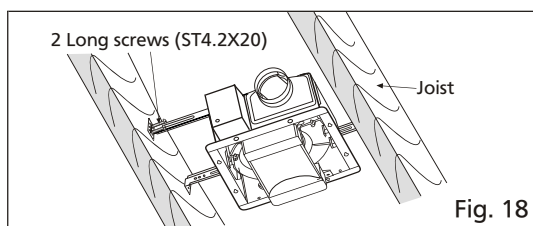
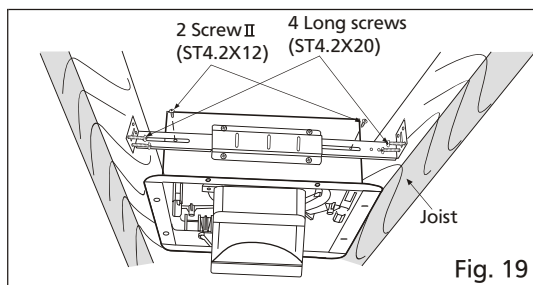

Fig. 18
Fig. 19
4. Secure the suspension bracket to joists by using long screws (ST4.2X20). (Fig.18, Fig.19)
5. Secure the suspension bracket to fan body by using screws II (ST4.2X12). (Fig.19)